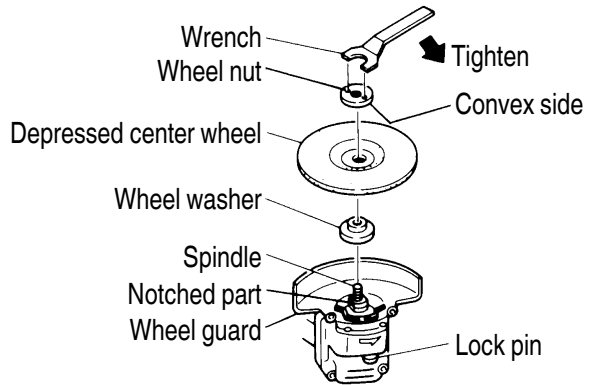

Fig. 2
ASSEMBLING AND DISASSEMBLING THE DEPRESSED CENTER WHEEL (Fig. 2)
- (1) Turn the equipment upsidedown so that the spindle will be facing up.
- (2) Mount the wheel washer onto the spindle.
- (3) Mount the protuberance of the depressed center wheel onto the wheel washer.
- (4) Mount the convex side of the wheel nut onto the depressed center wheel, and screw the wheel nut onto the spindle.
- (5) As shown in Fig. 2, push in the lock pin to prevent rotation of the spindle. Then, secure the depressed center wheel by tightening the wheel nut with the wrench.